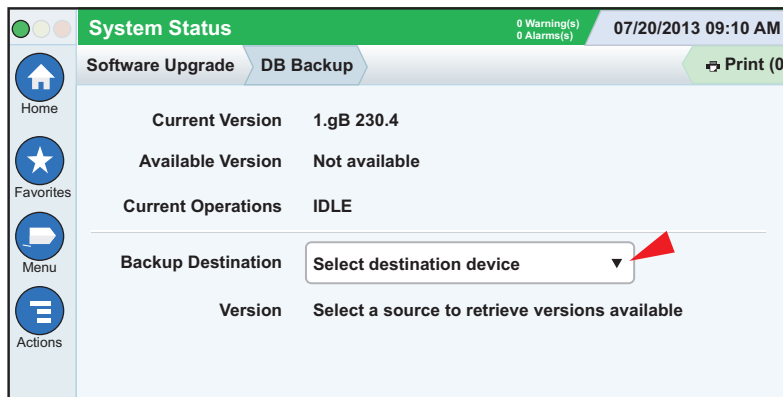

Figure 2. DB Backup Screen
- Figure 2. DB Backup Screen 3
2. From the Home Screen touch **Menu > Software Upgrade > DB Backup** to view the Database Backup Screen (see Figure 2). Touch the down arrow in the Backup Destination field to select the Backup thumb drive inserted in Step 1, then follow the on-screen instructions to backup TLS-450PLUS console data.